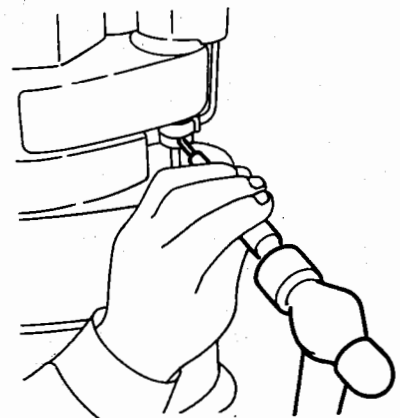

Fig.10.1
1. Remove the lower spring pin from the shift rod joint with the special tool. (Fig.10.1)